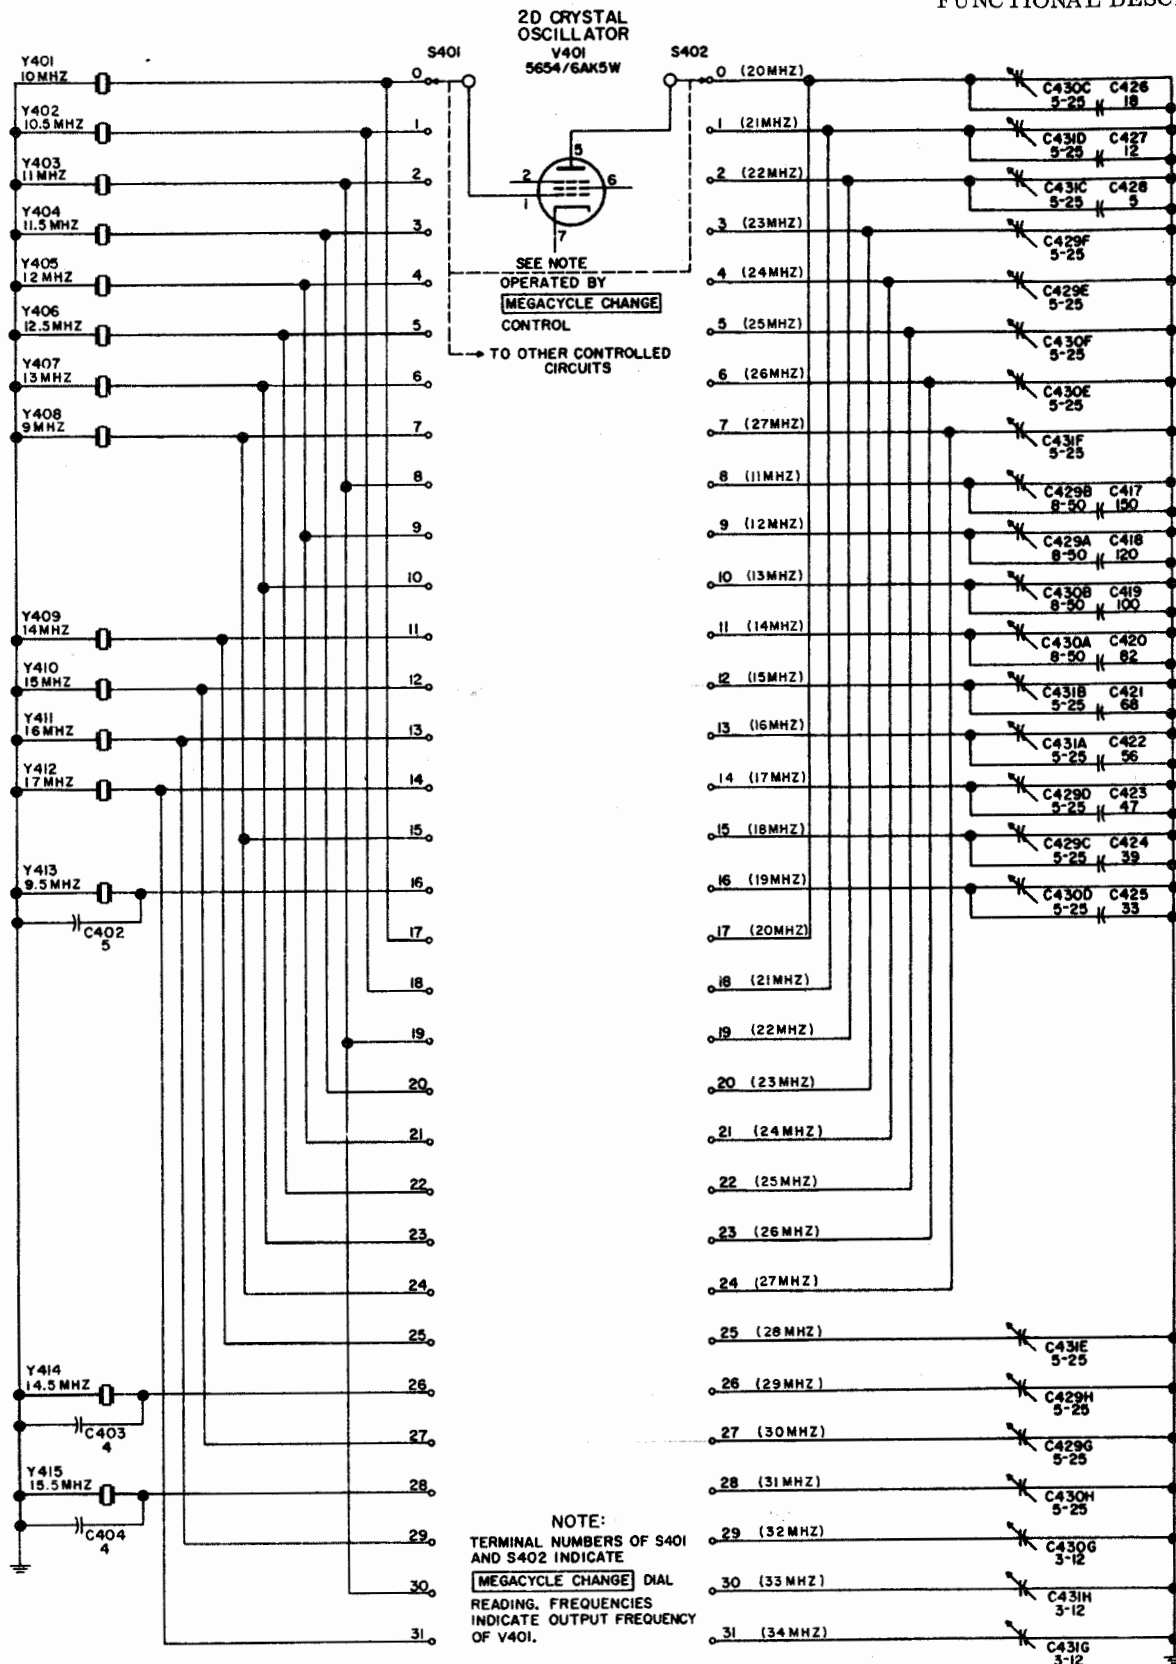

Figure 3-3. Second Crystal Oscillator V401, Crystal and Plate Circuit Switching, Schematic Diagram
3.2.7 Second Mixer and Second Crystal Oscillator. The signals applied to grid 6 of second mixer V203 range from 17.5 to 25 MHz when the receiver is tuned from 0.5 to 8 MHz, and then range from 8 to 32 MHz when the receiver is tuned from 8 to 32 MHz. The second crystal oscillator generates one of 32 fixed frequencies for application to the cathode of the second mixer. The oscillator frequency is selected by means of the MEGACYCLE CHANGE control which drives two 32-contact switches (figure 3-3). Switch S401 selects one of 15 crystals, and switch S402 selects an appropriate plate-circuit tuning capacitor. The plate circuit of V401 is tuned to the fundamental, second, or third harmonic of the selected crystal to provide the desired frequency, as indicated in figure 3-3. The frequency advances in 1 MHz steps from 20 to 27 MHz as the receiver is tuned from 0.5 to 8 MHz, and then proceeds from 11 to 34 MHz as the receiver is tuned from 8 to 32 MHz. The plate-circuit coil is a part of T401 (figure 5-11) which also provides coupling to the second mixer. The mixer's plate tank, Z216, is tuned by the KILOCYCLE CHANGE control to the difference frequency which descends from 2.5 to 2.0 MHz as the receiver is tuned from 0.5 to 8 MHz, and then descends from 3.0 to 2.0 MHz as the receiver is tuned from 8 to 32 MHz.